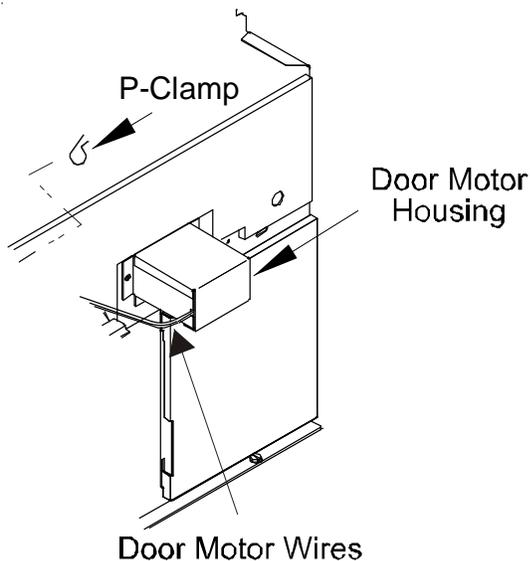

Figure 8
12. With the vent door lever in the closed position, place the end of the cable into the hole located in the door motor housing. This will position the cable away from moving parts (Figure 8).
13. Attach the provided p-clamp to the partition panel (Figure 8). *There is a dimple at the hole location to mark where a 1/8" hole will need to be drilled to mount the clamp.*